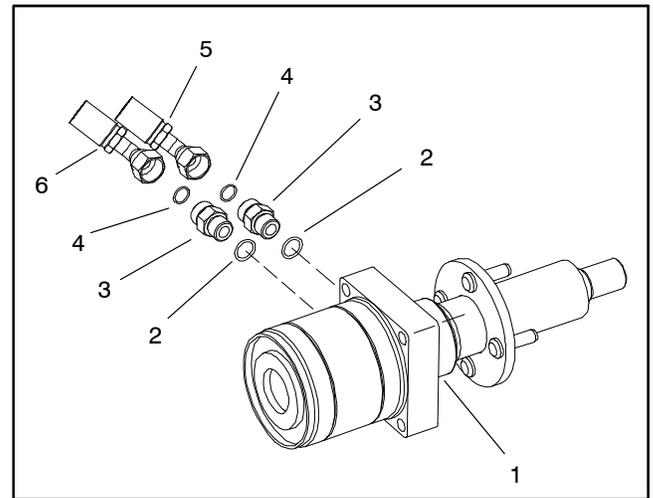

Figure 8
1. Thoroughly clean junction of hydraulic hoses and fittings on hydraulic motor (Fig. 8).
4. Remove grease seal (item 9) and snap ring (item 8) from the long end of hub.
5. Remove washer (item 7), two (2) thrust washers (item 6) and hub (item 2) from the hydraulic motor shaft. Remove remaining two (2) thrust washers (item 6), washer (item 7), snap ring (item 8) and grease seal (item 9) from the shaft.
6. If drive studs (item 4) are bent or damaged, press studs from the wheel hub.
7. Press clutch roller bearings (item 3) from the hub.